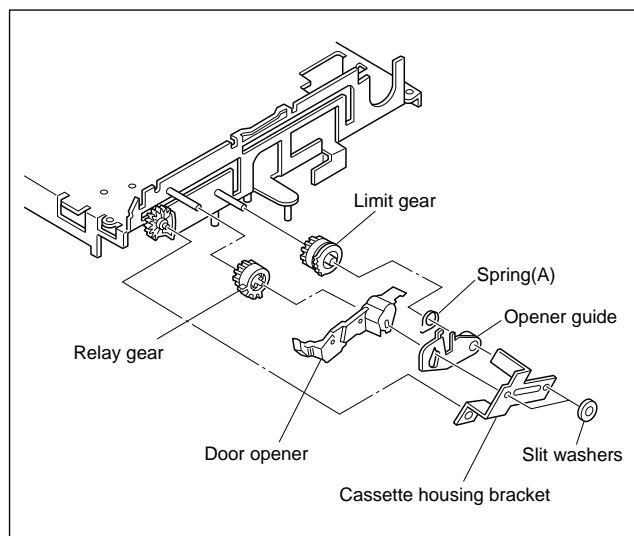

Fig. 2-2-3b
- (2) Remove the two slit washers and remove the cassette housing bracket. (See Fig.2-2-3b.)
- (3) Remove the opener guide, spring(A), door opener, relay gear and limit gear. (See Fig.2-2-3b.)